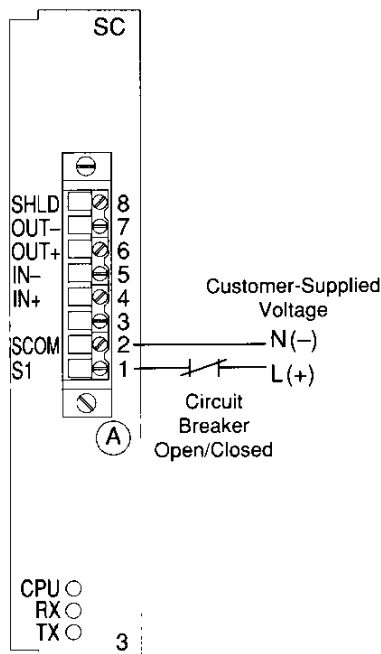

Figure 35: Typical status input connections
The digital relay with optional communications card offers one status input. The input can be used to sense the state of external contacts, such as those of a circuit breaker. Figure 35 shows a typical input connection. Follow these steps to wire the status input connections:
3. Connect the wires as shown in figure 35. Tighten the terminal screws; see the **Terminal Block Wiring Specifications** table, page 100, for the correct torque range.